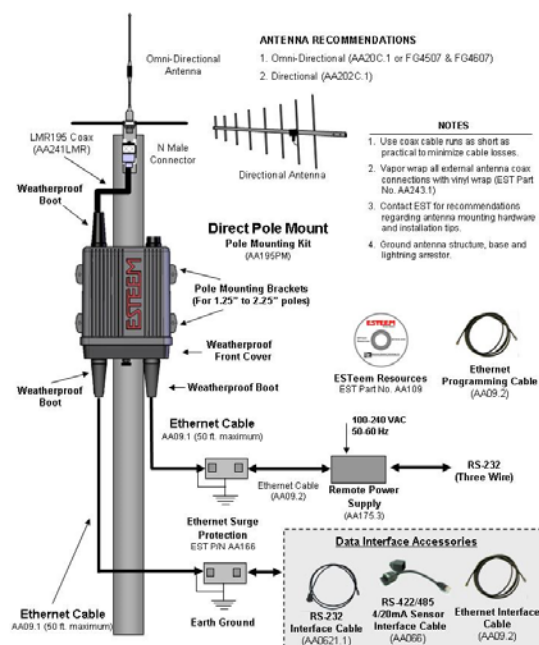

Figure 2 – Pole Mount Configuration
RS-232 – The ESTeem 195C/M/H has two (2) RS-232 data ports. One RS-232 port (Port 4) is available for use when the ESTeem 195C/M/H is remote pole mounted (Figure 2), but only supports the basic three wire (Transmit, Receive and Ground) connection without any handshaking. The second RS-232 port (Port 3) has full hardware handshaking through the request to send (RTS) and clear to send (CTS) lines. Both RS-232 ports are software configurable from 2,400 to 115,000 bps.